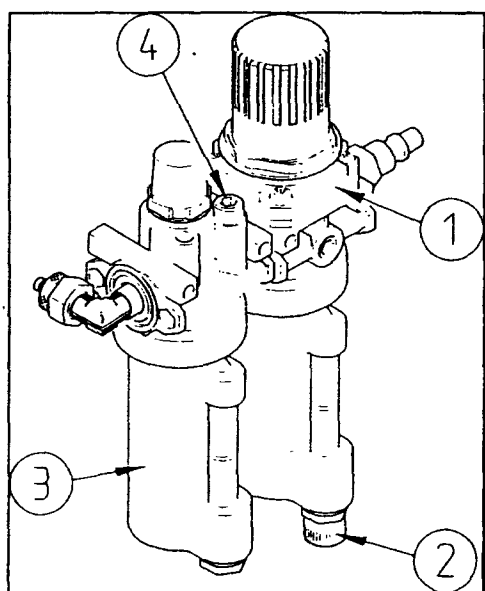

Fig.48
C. Daily drain water from water separator (#1 Fig. 48). To do so pull the fitting (#2 Fig.48).
D. Weekly check the oil level in the air lubricator. When adding oil to the lubricator, disconnect the air supply first, remove the metal cup (#3 Fig.48) by twisting 1/4 of a turn counter-clockwise, and add oil as needed. Make sure seals are in place when repositioning the cup.
E. Periodically check the lubricator efficiency. One drop every 10 operations of the wheel lift indicates that the correct amount of oil is being dispersed in the system. If necessary adjust oil flow with screw #4 Fig.48.